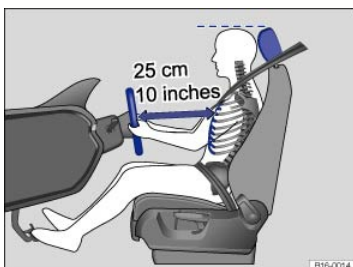
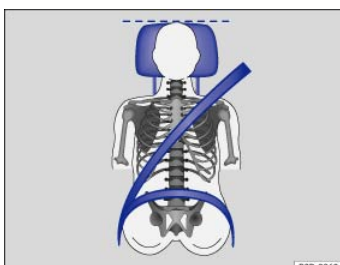

Fig. 34 The driver should never sit closer than 10 inches (25 cm) from the steering wheel.
Fig. 35 Proper safety belt positioning and head restraint adjustment.
- Adjust head restraints so that the upper edge of the head restraint is at least at eye level or higher. Position the back of your head as close as possible to the head restraint ⇒ *Fig. 34* and ⇒ *Fig. 35*.
- Adjust the steering wheel so that there are at least 10 inches (25 cm) between the steering wheel and your breast bone ⇒ *Fig. 34*. When adjusting the proper distance to the steering wheel, grasp the top of the steering wheel with your elbows slightly bent.